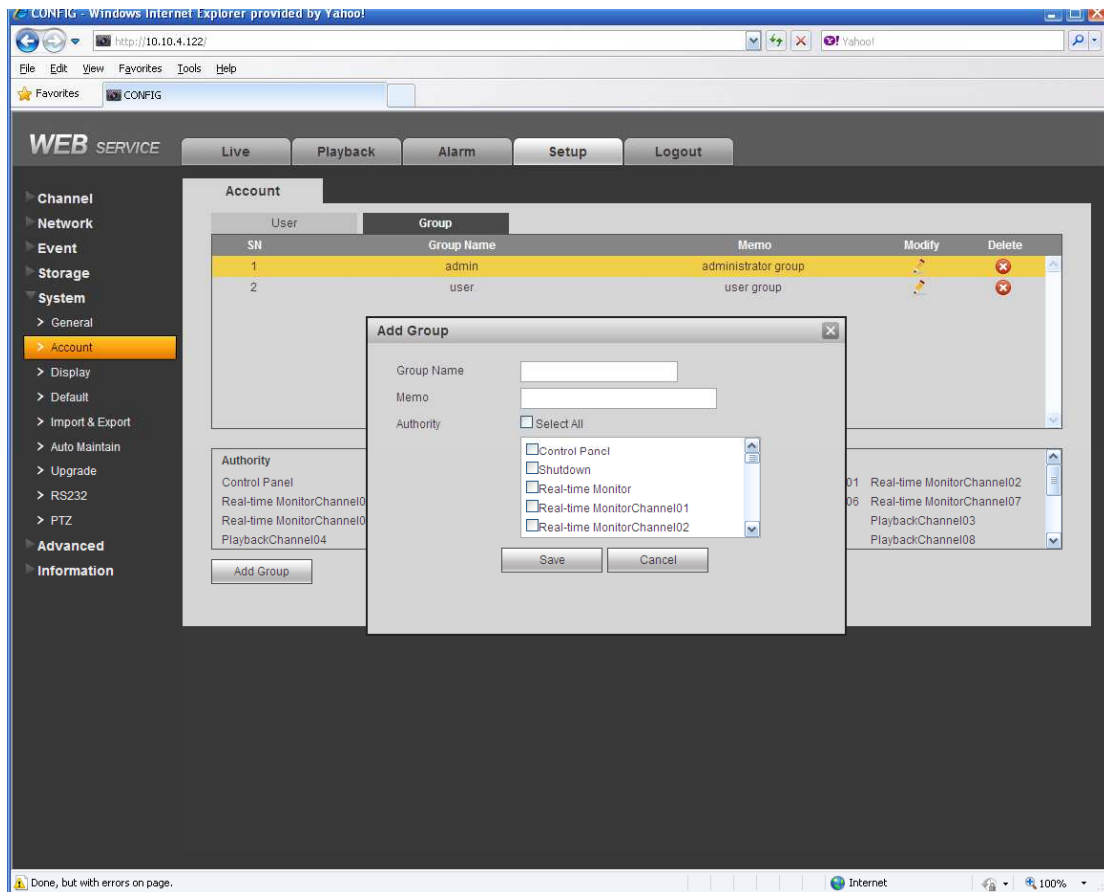

Figure 7-82
**Add group:** It is to add group and set its corresponding rights. See Figure 7-82. Please input the group name and then check the box to select the corresponding rights. It includes: shutdown/reboot device, live view, record control, PTZ control and etc.